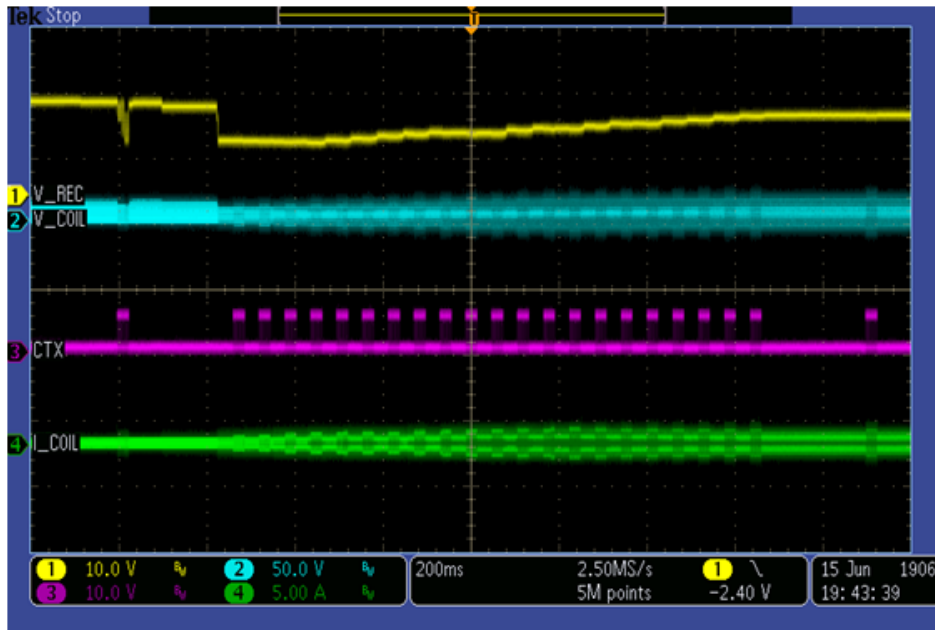

Figure 27. System response for adding loading gradually
- System response measurement for adding the load gradually from 0 A is shown in Figure 27.